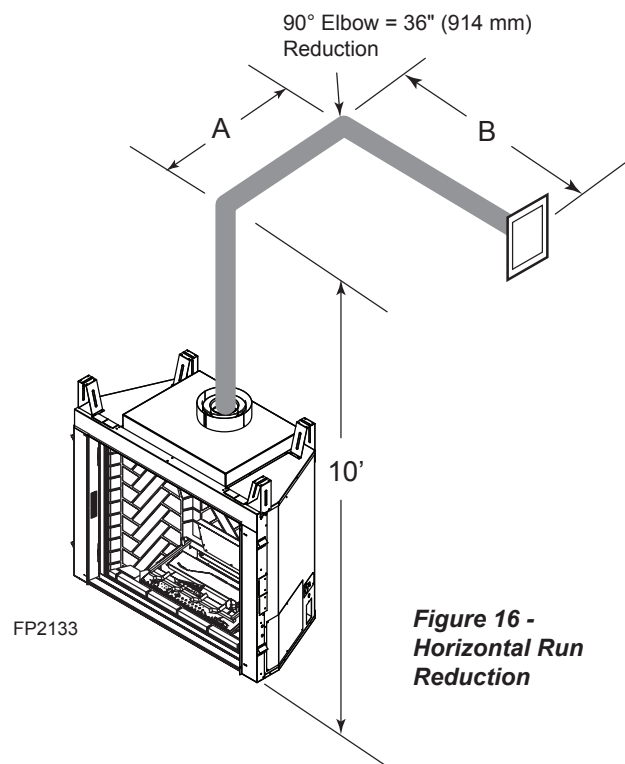

**Figure 16 -**
- If a 90° elbow is used in the horizontal vent run (level height maintained) the horizontal vent length is reduced by 36". *Figure 16*. This does not apply if the 90° elbows are used to increase or redirect a vertical rise.
In *Figures 16 and 17* dimension A plus B must not be greater than 14½' (4.4 m).